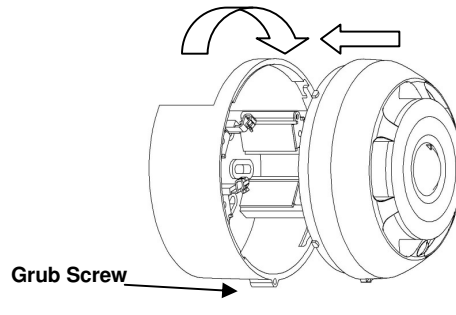

Figure 4 Fit sounder to base
5. Fit the Head to the base in a Bayonet motion as shown in Figure 4. Unwind the Grub Screw in the base to Lock the head in place.